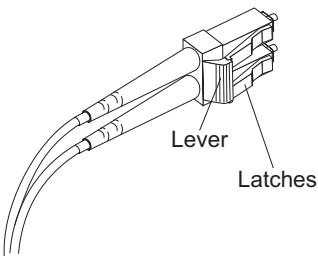

Figure 31. LC-LC Fibre Channel cable lever and latches
1. On the end of the LC-LC cable that connects into the SFP module or host bus adapter, press down and hold the lever to release the latches, as shown in Figure 31.